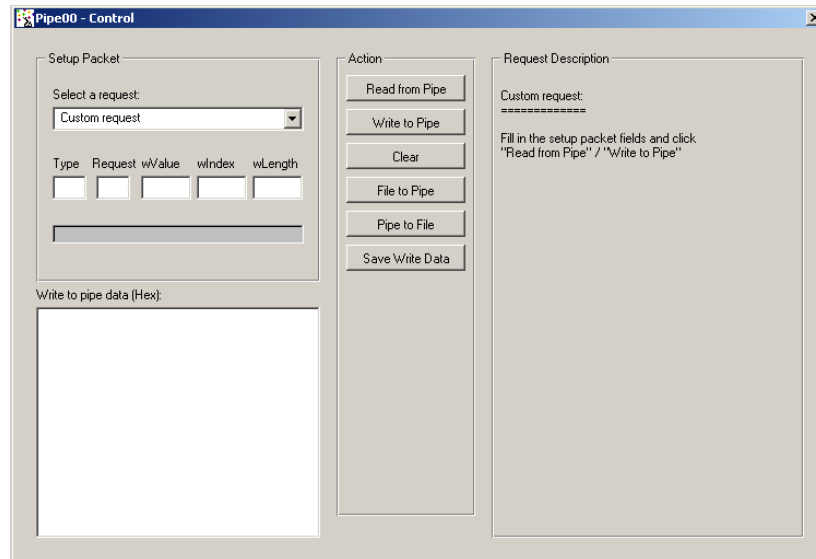

Figure 9.3: Custom Request
- For a custom request: enter the required setup packet fields. For a write transaction that includes a data stage, enter the data in the **Write to pipe data (Hex)** field. Click **Read From Pipe** or **Write To Pipe** according to the required transaction (see Figure 9.3).